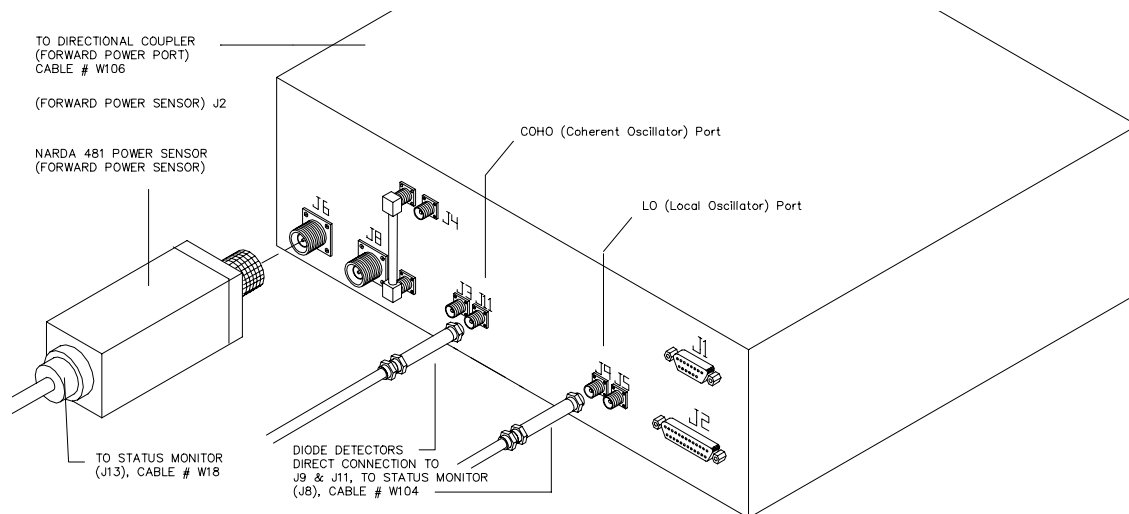
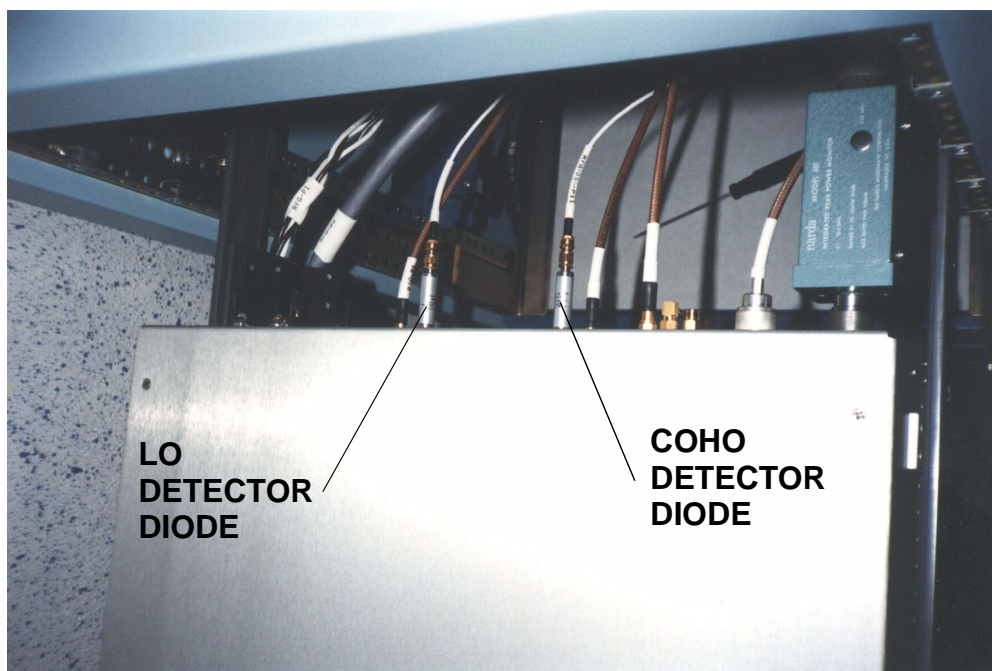

Figure 4-9 Diode Detector Replacement
Figure 4-10 RF Generator Detector Diodes
The Diode Detectors, connected to ports J9 and J11 of the RF Generator (see Figure 4-9 and Figure 4-10), rectify LO and COHO RF signals from the RF Generator to produce a proportional DC voltage that is monitored by the SSM to detect RF Generator faults.
2. Remove the four mounting screws from the front panel of RF Generator and carefully pull the unit to its full-out position as shown in Figure 4-10.